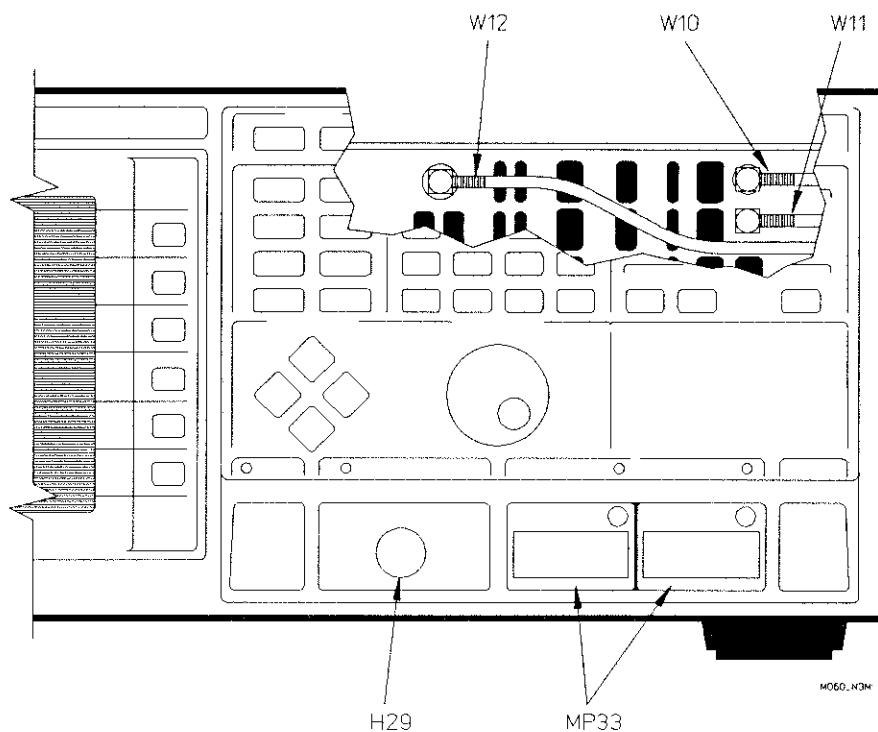

Figure 1-6. Front View of Option 060 Installation
6. Install the two MP33 Blank Front Panel Pod Covers, HP P\N 54100-64101, to cover the holes created by removing the pods in step 5. (See *Figure 1-6*.)
- d. Connect the SMC connector end of the External Arm Rear Panel Input Cable to W21 External Arm Extension Cable Bulkhead Connector located at the front of the card cage. (See *Figure 1-6*.) Tighten using a 6mm open-end wrench.
- d. Connect the SMA connector end of the Channel A Rear Panel Input Cable to W19 Channel A Input Extension Cable Bulkhead Connector located at the front of the card cage. (See *Figure 1-6*.) Tighten using a 5/16 inch open-end wrench.
- d. Connect the SMA connector end of the Channel B Rear Panel Input Cable to W20 Channel B Input Extension Cable Bulkhead Connector located at the front of the card cage. (See *Figure 1-6*.) Tighten using 5/16 inch open-end wrench.